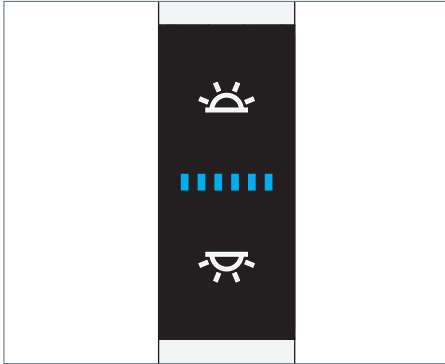

Fig. 20: Operating element.
- Press the upper switch, see Fig. 20
- Press the lower switch, see Fig. 20.
- Press the upper switch and keep it depressed, see Fig. 20.
- Press the lower switch and keep it depressed, see Fig. 20.